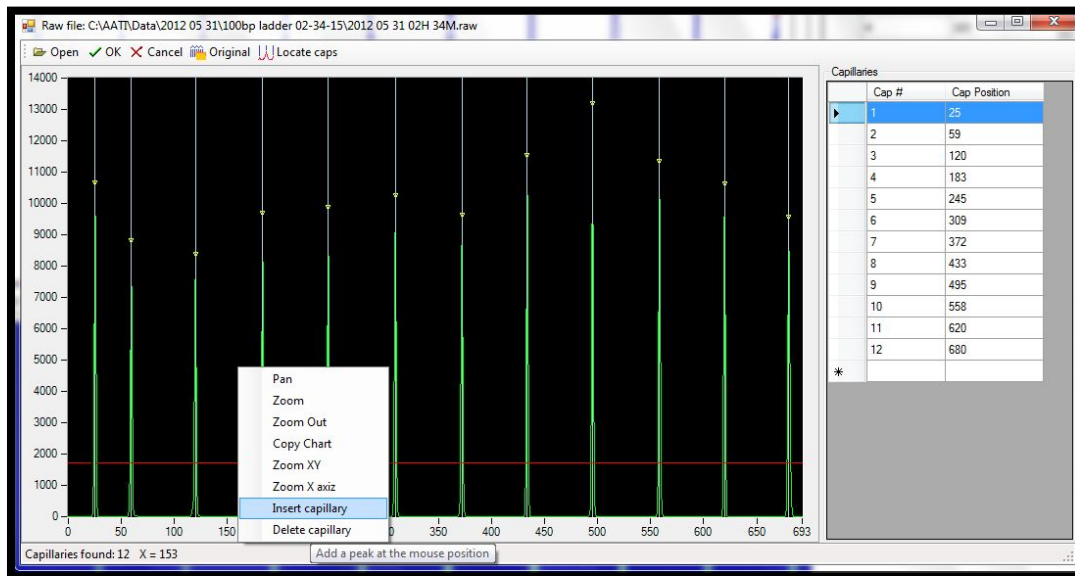

Figure 7-13. Capillary Position Display Window:
- Right click on the area in the black screen of the Align from File Window and select [Insert/Delete Capillary]. (Fig 7-13.)